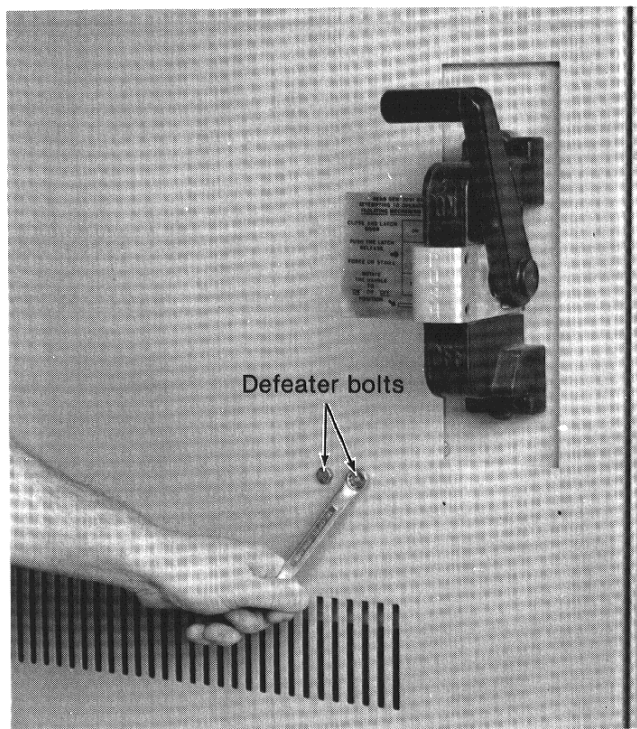

Figure 52. Door interlock defeater bolts.
2. Remove the right-hand hex-head bolt, as shown in Fig. 52.